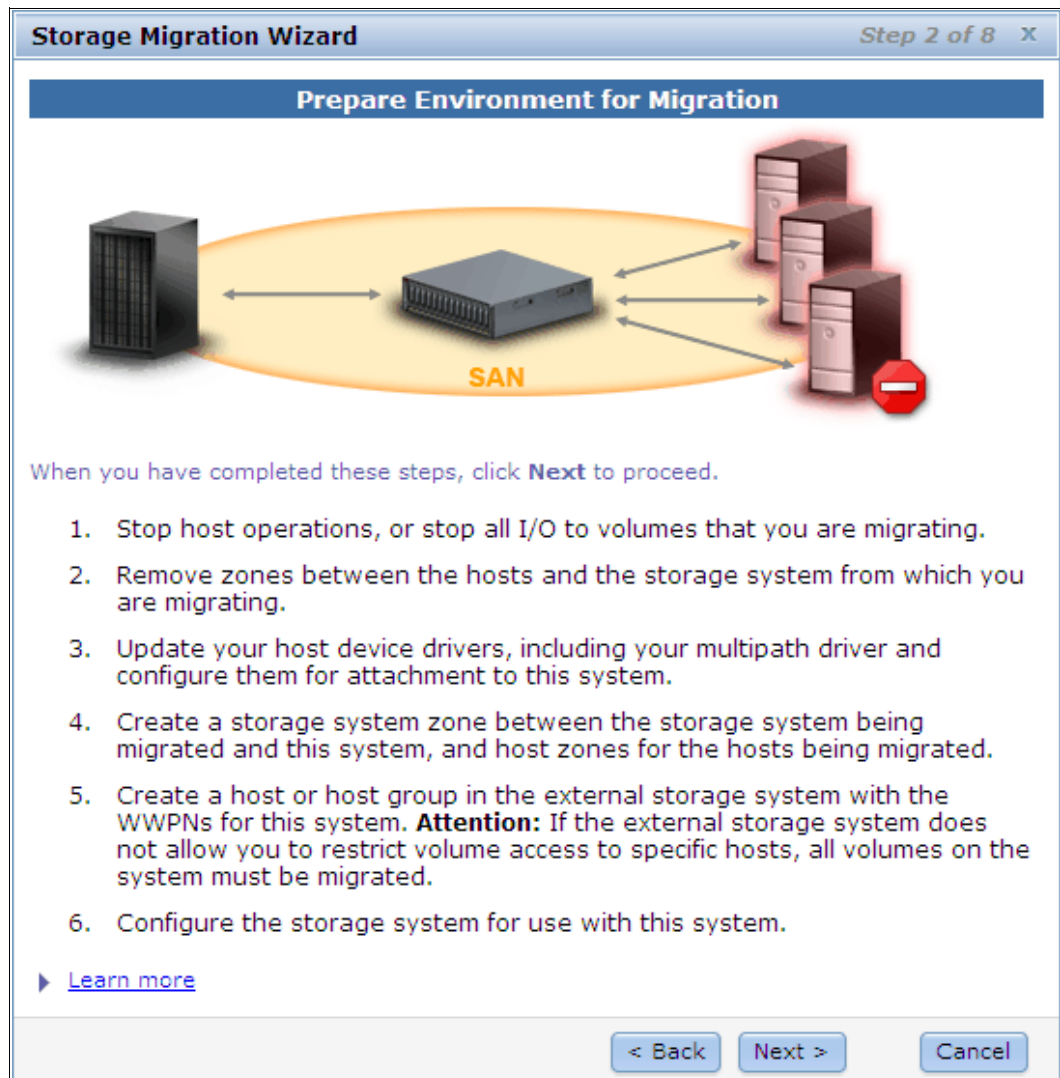

Figure 6-25 Storage migration wizard: Step 2
5. Follow step 2 of the storage migration wizard step 2, as shown in Figure 6-25. Complete all the steps to before you continue.